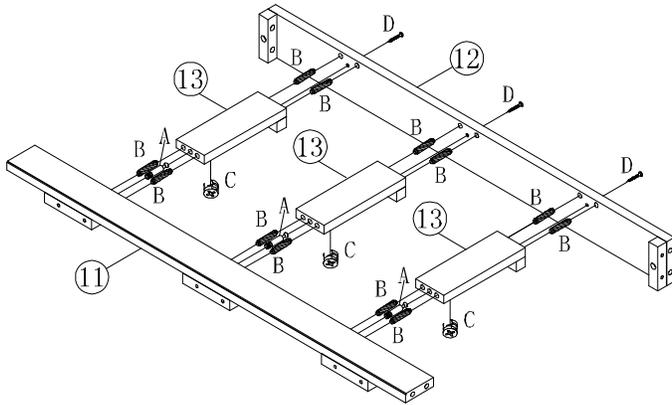

Figure 1
INSERT 3PCS CAM-BOLT (A), AND 12PCS WOOD DOWEL (B) INTO PREDRILLED HOLES ON FRONT AND BACK RAILS (11&12) , AND FIT INTO CORRESPONDING HOLES ON ENDS OF WOOD CONNECTER (13). INSERT 3PCS CAM-LOCK (C) INTO BIG HOLES ON UNDERSIDE OF WOOD CONNECTER (13) WITH SLOT FOR SCREWDRIVER FACING OUTWARD. ROTATE CAM-LOCK (C) CLOCKWISE TO SECURE CAM-BOLT (A). THEN INSERT 3PCS FLAT HEAD LONG SCREW (D) THROUGH PREDRILLED HOLES ON BACK RAIL (12) AND TIGHTEN INTO END OF WOOD CONNECTER (13). AS FIGURE 1 SHOWN.